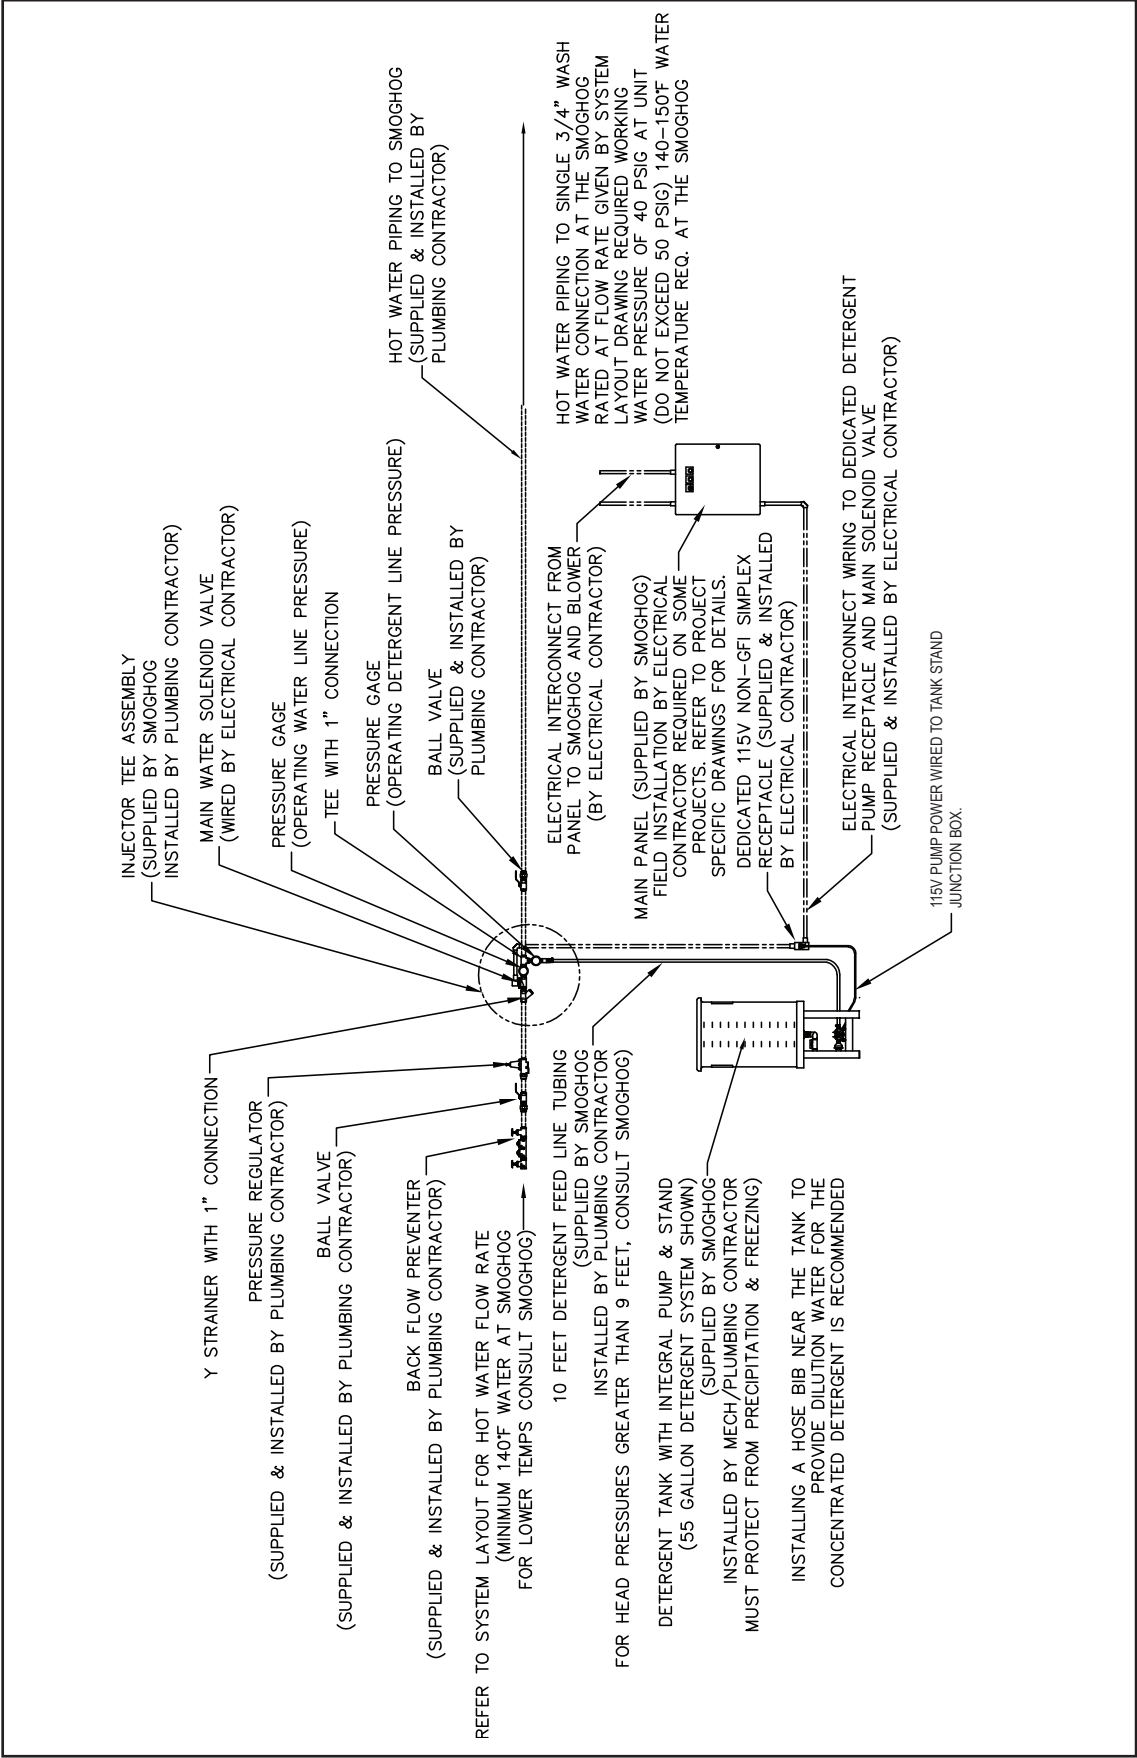

FIGURE 1 - IN-PLACE CLEANING SYSTEM INSTALLATION SCHEMATIC
The wash water supply pipe should be a 1" NPT to the SmogHog wash pipe connection. Piping runs may dictate larger diameter piping which should be determined by the installing contractors or plant maintenance. The wash water supply pipe will require heat tracing and insulation if exposed to cold ambient conditions, refer to Figure 1. The In-Place Cleaning System effectiveness depends on the wash water temperature. Detergents are twice as effective in hot water. The water temperature specification for the In-Place Cleaning System is 140° to 170° F, not to exceed 180° F, refer to Section 8.7.
The injector tee assembly should be installed in close proximity to the SmogHog. As illustrated in Figure 1, the injector tee assembly is installed horizontally to the wash water supply pipe and not exposed to cold ambient conditions. Additional equipment is required which is supplied by others: backflow preventers, water pressure regulators, and two ball valves, refer to Figure 1.
The detergent pump assembly should be installed at a level location, not rated for outside/wet conditions. Ten feet of braided 1/2 inch diameter hose is supplied by the factory for connection to the injector tee assembly, refer to Figure 1.
1). All ball valves or equivalent are open, refer to Figure 1. Shut-off valves can also be located on the backflow preventer.
b). During the wash mode, which is after the pre-rinse mode, adjust the detergent pump operating pressure with the mini-ball valve located at the detergent pump outlet, refer to Figure 1 for detergent pressure gauge. The detergent operating pressure should be 5 to 10 psig higher than the water operating pressure. For example, if the water operating pressure is 50 psig, the detergent operating pressure should be 58 to 60 psig. The injector tee assembly supplied by Parker, includes gauges to observe the operating pressures.